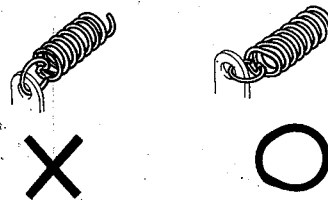

Fig. 8
- 2) Anchoring the spring hooks upwards causes a faulty condition by touching the main circuit board. Therefore, anchor the spring hooks sideways. (See Figure 8)